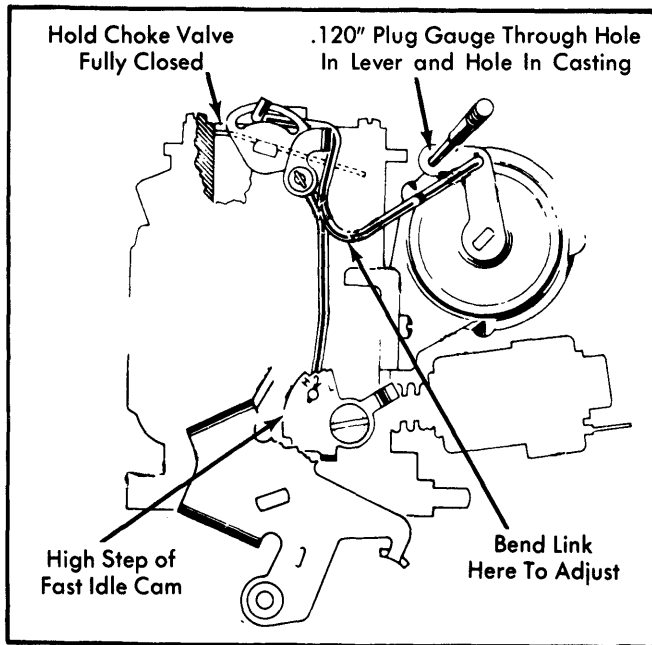

Fig. 3 Adjusting Choke Coil Lever
- 1) Place cam follower on HIGHEST step of fast idle cam. Hold choke valve closed. See Fig. 3.
- 1) Place cam follower on HIGHEST step of fast idle cam. Use outside vacuum source and apply enough vacuum to seat diaphragm (See Fig. 3).